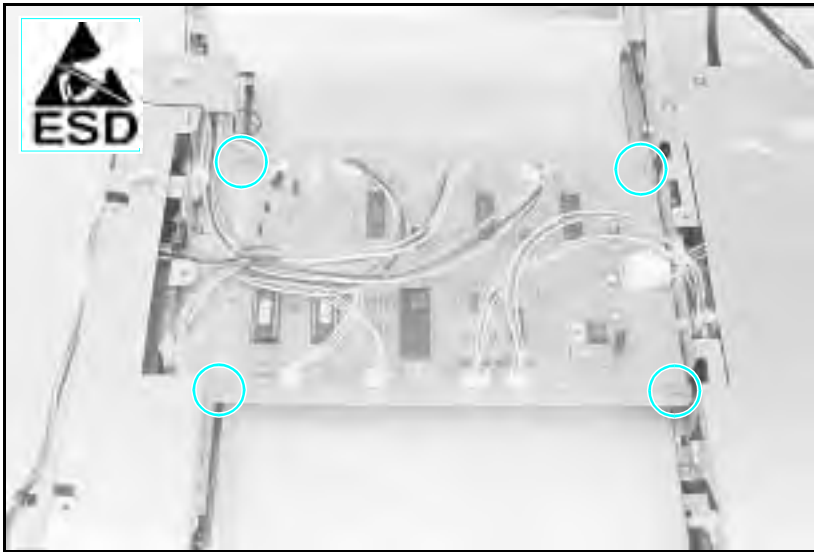

Figure A-17 Control PCA
4 Remove the (4) screws shown in Figure A-17.